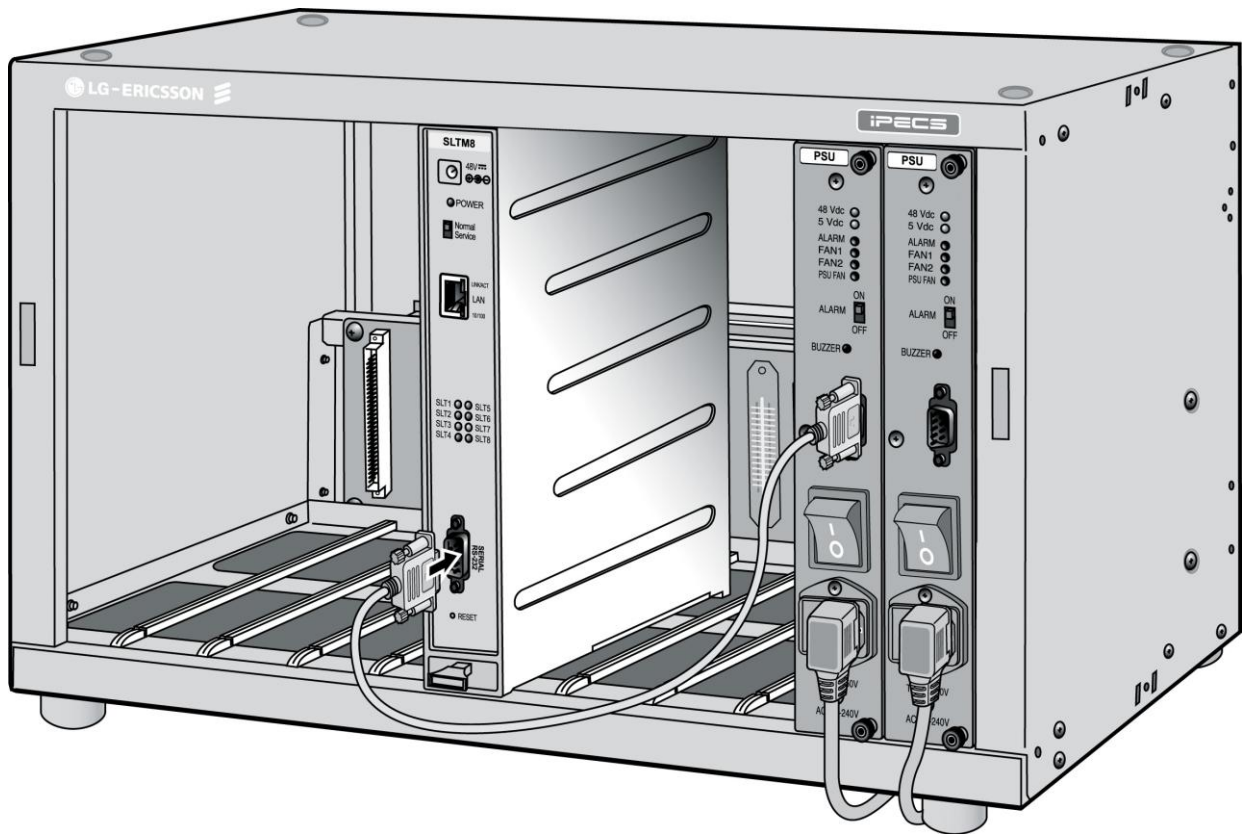

Figure 4.4-3 Monitoring cable Installation
Figure 4.4-3. Note when a back-up PSU is installed, the serial cable is connected to the back-up PSU only. Note that when employing a WTIM as the notifying gateway Module, Dip switch 3 of the WTIM, the Serial Mode switch, must be set to OFF, the Main CPU Serial mode.
- To activate monitoring of the PSU and Main Cabinet fans, connect the supplied serial cable from the DB9 connector of the PSU to the monitoring gateway Module defined in admin PGM 197. Refer to Figure 4.4-3. When a back-up PSU is installed, the serial cable is connected to the back-up PSU only. Note that when employing a WTIM as the notifying gateway Module, Dip switch 3 of the WTIM, the Serial Mode switch, must be set to OFF, the Main CPU Serial mode.